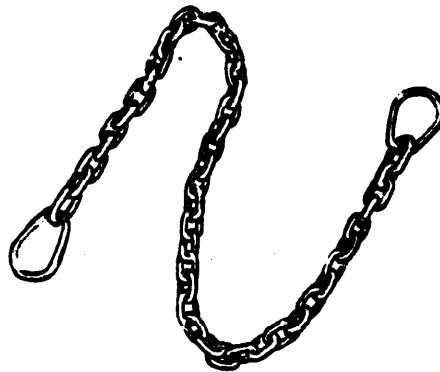

Fig. 1--5/16-Inch Chain
- 2.01 The 5/16 inch construction chain is 52 inches long with each end terminated in a pear shaped link (Fig. 1).